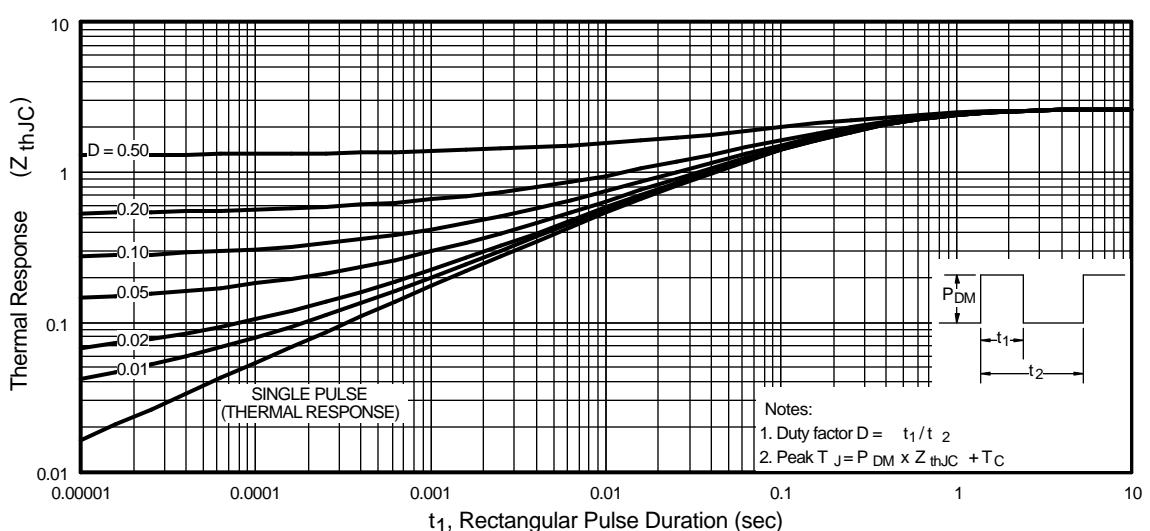

Fig 11. Maximum Effective Transient Thermal Impedance, Junction-to-Case
- ① Repetitive rating; pulse width limited by max. junction temperature. (See fig. 11)
- ② $V_{\text{DD}} = 25\text{V}$, starting $T_J = 25^\circ\text{C}$, $L = 390\mu\text{H}$